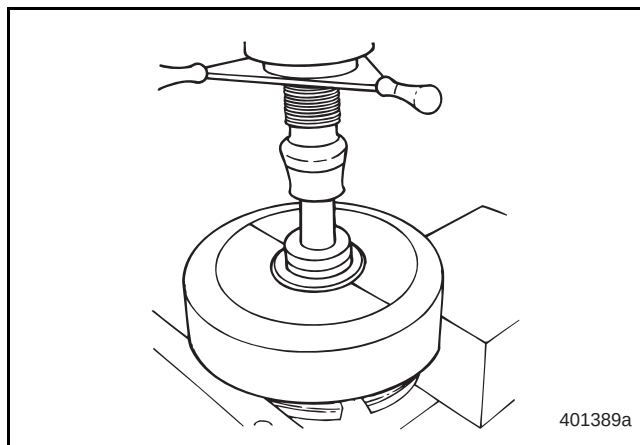

Figure 67 — Removing Bearing Cone from Side Casing
11. If inspection reveals the need to do so, replace the bearings on the differential halves using a hydraulic press and the appropriate segment and adapter rings. Press the bearings off the side casings as shown in Figure 67. Refer to the Special Tools Chart on page 128 for the correct segments and adapter rings.